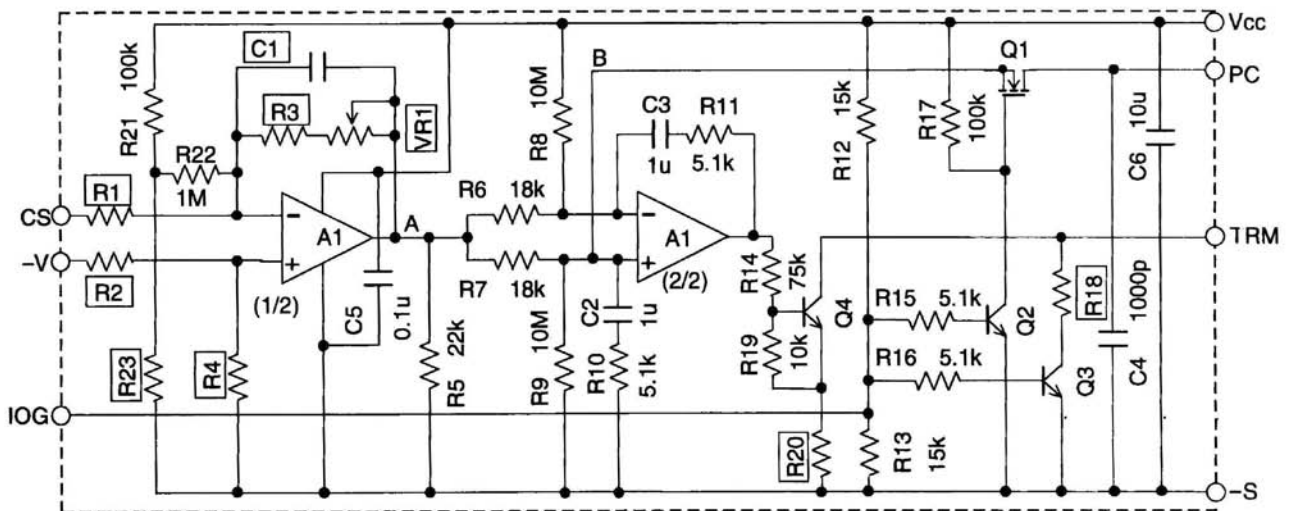

Figure3-2 Control Circuit fo Parallel Operation
Basic circuit connection is shown in Figure3-1. For control circuit of parallel operation, individually connect a circuit shown in Figure3-2 to each PH300S, 600S series of power module of parallel operation.
(2) Terminal Explanation of Figure3-2
For CS terminal voltage is a small voltage in negative polarity, Op-Amp A1 (1/2) is amplifier inverting shown as Figure3-2. For all of PH modules to be in parallel operation, VR1 shall be adjusted to equalize with the voltage at A point at full load. Setting voltage of A point is 3V to 5V, and the setting accuracy is within ±2%. Voltage adjustment of A point can be adjusted with PC terminal of open circuit.
For choosing capacitor(s), refer to values expressed in Figure3-2 and values for each component shown in Table3-2. Use film capacitor or ceramic capacitor which has good temperature characteristics.
For choosing capacitor(s), refer to values expressed in Figure3-2 and values for each component shown in Table3-2. The tolerance shall be less than $\pm 5\%$.